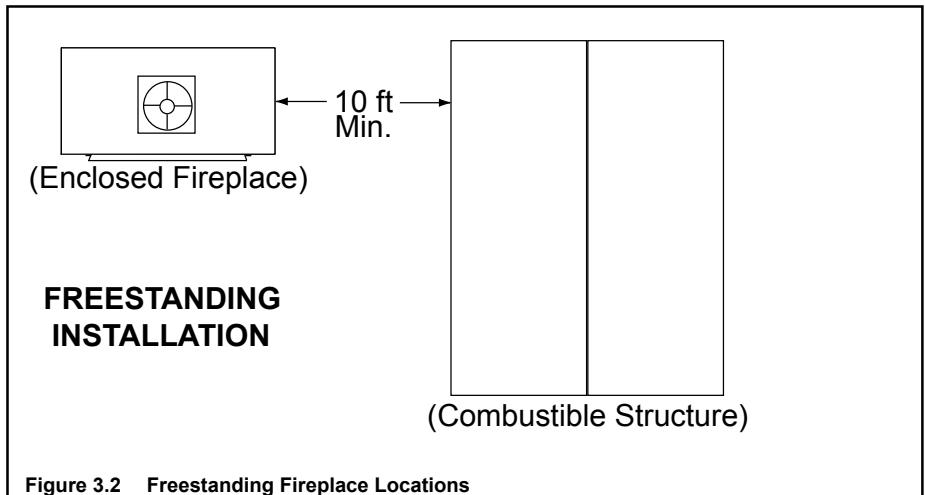

Figure 3.2 Freestanding Fireplace Locations
- **Freestanding Installations (see Figure 3.2)**
- Minimum overall straight height is 10 ft If the fireplace is freestanding and a minimum of 10 ft from a combustible structure. See Figure 3.2.